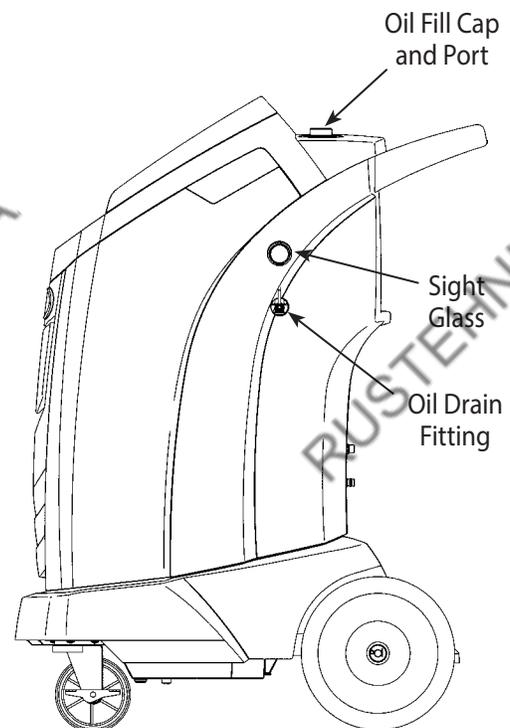

Figure 14
3. SLOWLY open the oil fill cap to verify there is no pressure in the machine. Then carefully remove the cap. See Figure 14.